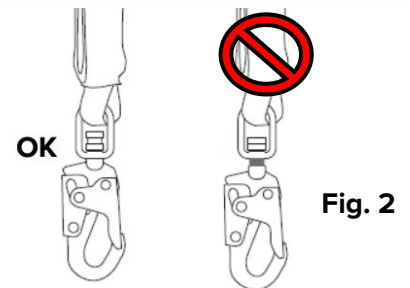

Fig. 2
3. Inspect the external connector swivel eye, the anchorage connection carabiner, and the self-locking snaphooks for damage or deformation and that the gates open, snap closed and lock easily and smoothly. Inspect the self-locking snaphooks to be sure that the impact load indicator has not been deployed (snap swivel section shows a red warning band Fig. 2). Be certain both the carabiner and self-locking snaphook gates are free of burrs, functioning properly, clean and not bent. Also, inspect the retractable unit housing to ensure no breaks, distortion, cracks, loose or missing screws or other damage exist. Ensure that all connecting hardware is properly fastened and is secure.